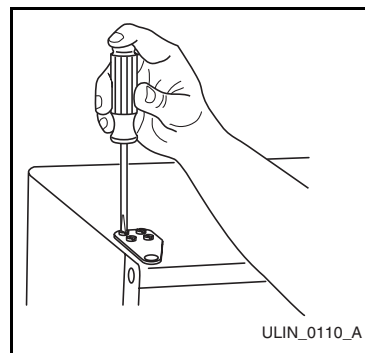

Figure 17
- Place door on lower hinge pin. Align flat edge of top hinge with outer edge of unit and fasten upper hinge to unit (four screws) (**Figure 17**). Partially tighten screws.